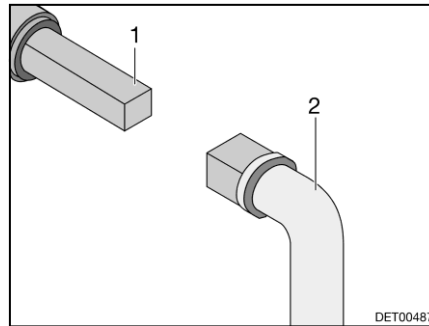

Fig. 67 Operation of the waste water tap
- Place key (Fig. 67,2) onto the square bolt (Fig. 67,1).